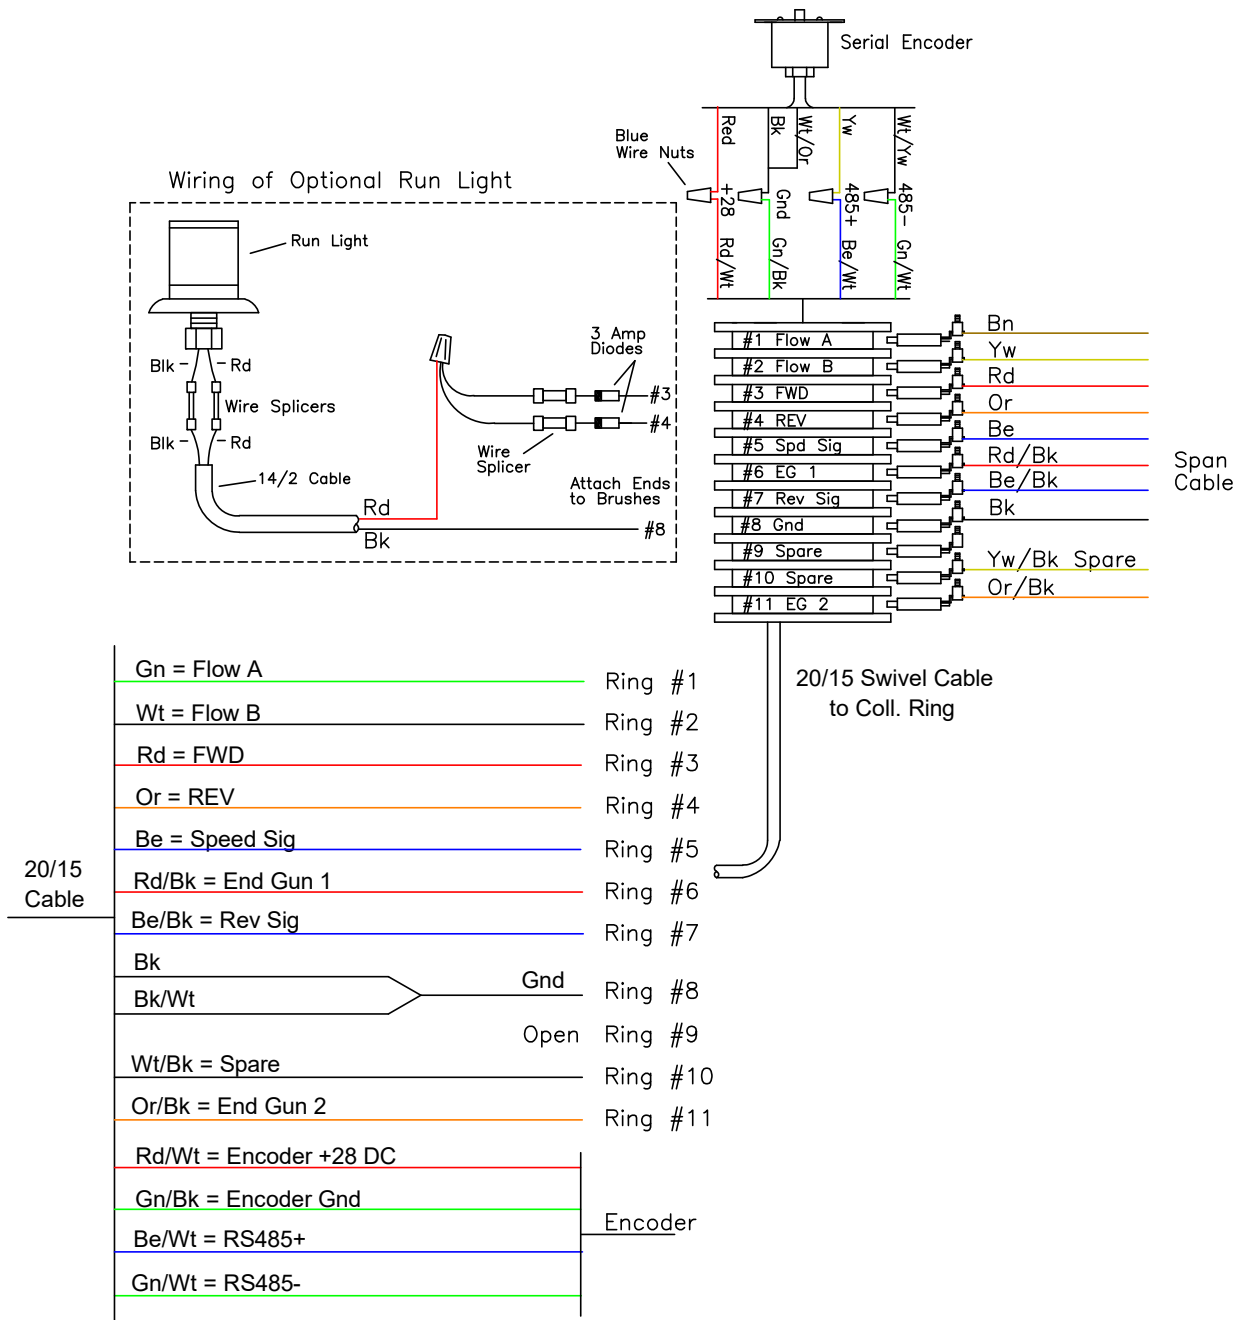

Figure 209. Collector Ring Wiring with Encoder.
11.5 Collector Ring Wiring with Encoder Position Sensor (Figure 209)